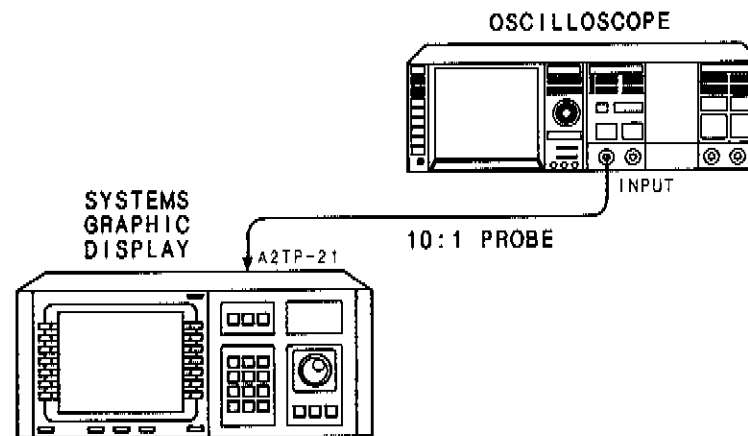

Figure 4. Intensity Limit Adjustment Test Setup
- b. Connect oscilloscope to TP-21 on the A2 Video/Sweep assembly (Refer to Figure 4 and 5 for setup and test point location).